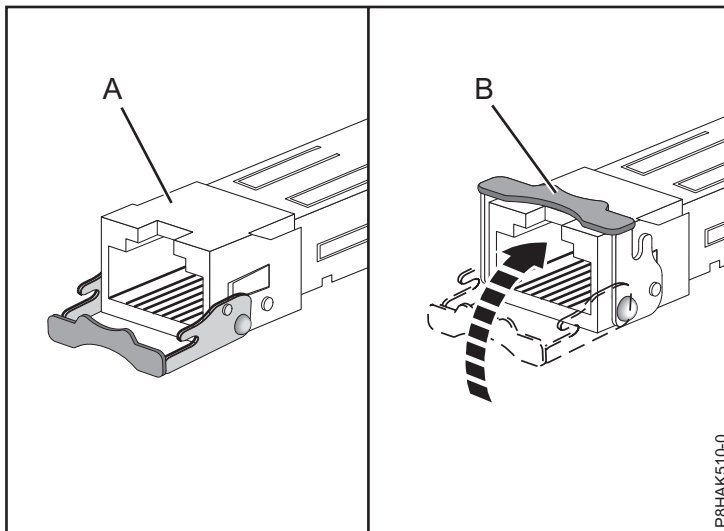

Figure 53. Replacing SFP transceivers in the adapter
- c. With the latch **(B)** in the open position, push the latch by rotating it up and toward the card as shown in Figure 53 on page 52.